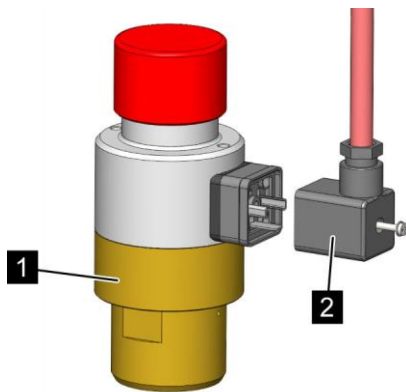

Fig. 176: Check the activation
4. ➤ Connect the electrical release device (Fig. 176/1) on the plug (Fig. 176/2).